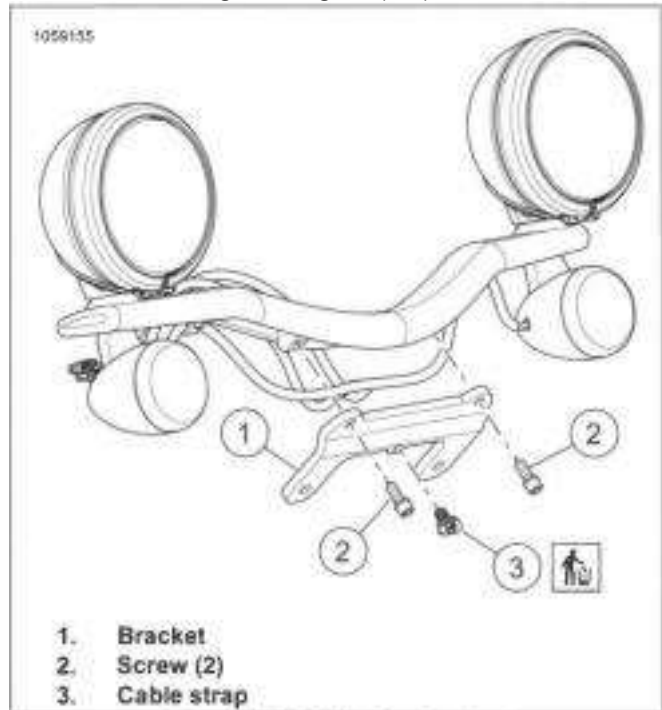
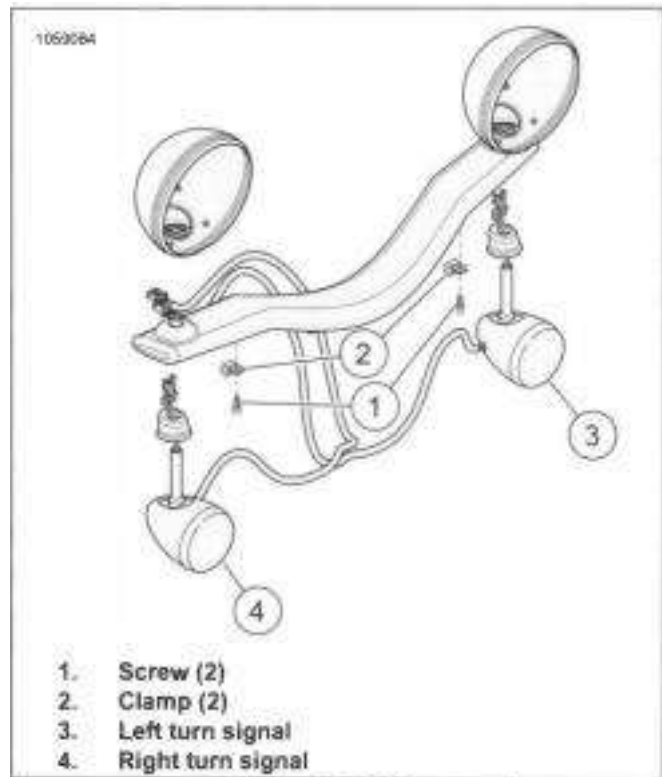

Figure 7-66. Light Bar Bracket
Figure 7-67. Light Bar Disassembly
1. See Figure 7-66. Discard cable strap (3).
2. Remove screws (2) and bracket (1).
4. See Figure 7-67. Remove screws (1) and clamps (2).
1. See Figure 7-67. Install left and right turn signals (3, 4).
2. Install screws (1) and clamps (2). Tighten.
4. See Figure 7-66. Install screws (2) and bracket (1). Tighten.